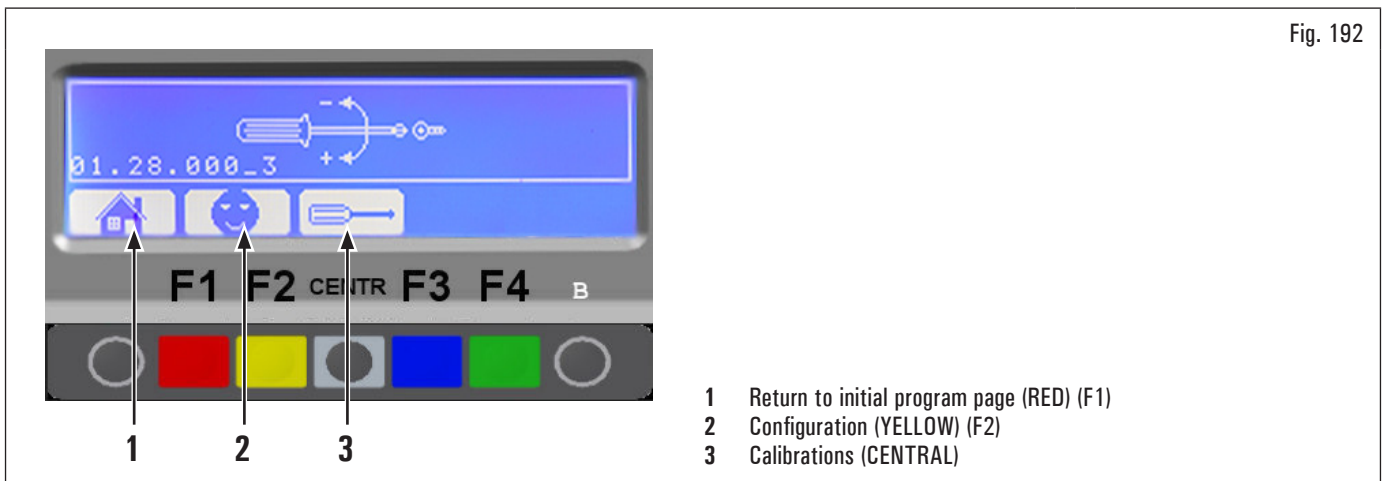

Fig. 192
Type in the password F1-F2-CENTR-F3, the program will show the screen page in Fig. 192:
To enable or disable these result previews, press the "F1" key . The program will show the screen page in Fig. 191. Enter password F1-F2-CENTR-F3 to access the "customer configuration" screen page (see Fig. 192).
Enter password F1-F2-CENTR-F3 to access the "customer configuration" screen page (see Fig. 192).
- 5 Return to screen page Fig. 192 (RED) (F1)